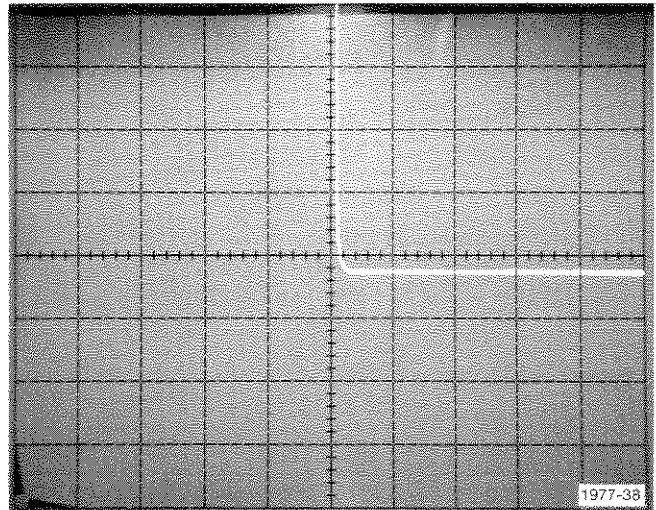

Fig. E-2. Input offset voltage.
c. Check that the right edge of the horizontal trace is ≤ 2.5 divisions vertically from the center reference; i.e., ± 5 mV (see Fig. E-2).